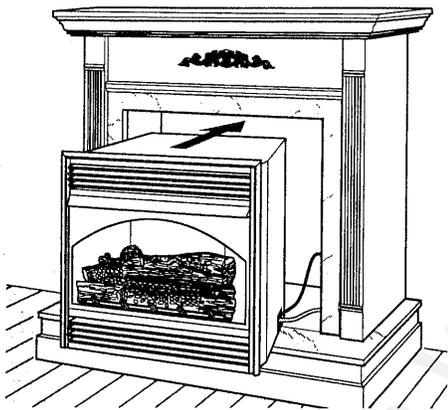

Figure 24 - Inserting Fireplace Into Cabinet Mantel
- Carefully insert fireplace into cabinet mantel (Figure 24, page 13). Be careful not to scratch or damage hearth base, cabinet mantel, or any laminate trim on hearth base. Remove protective material from top of hearth base and from front of fireplace (if any). *Note:* You can secure fireplace to hearth or floor. Open lower louver. Locate screw holes in bottom of base. Tighten wood screws through these holes and into hearth or floor.